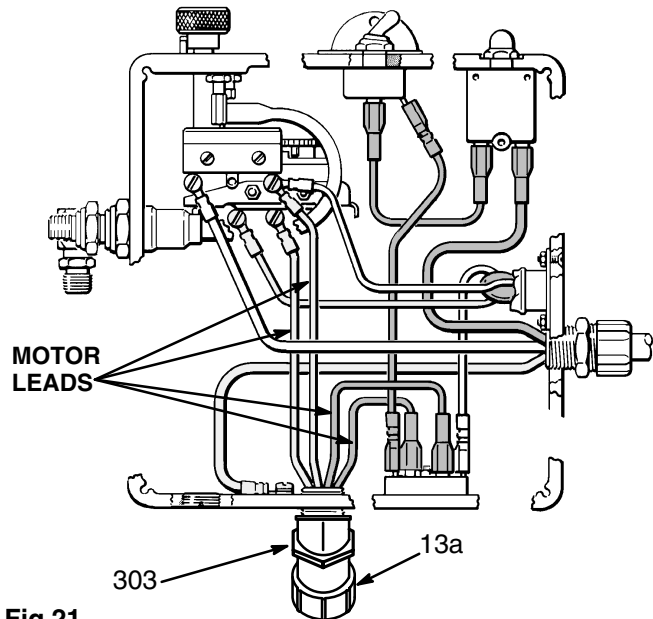

Fig 21
4. Disconnect the motor leads. See Fig 21.
5. Unscrew the connector (13a) nut. Gently pull the conduit (13b) away from the pressure control and pull the motor leads out of the rubber grommet (3) and nut, one at a time.